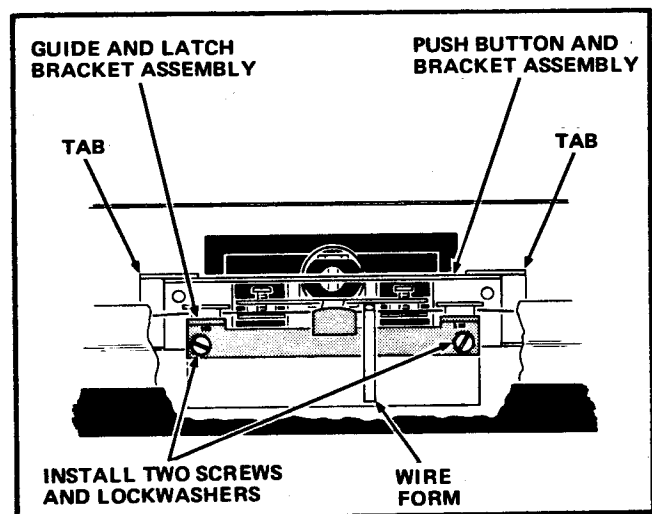

FIGURE 25
7. Install the unit with the Push Button in place in the Channel. Be sure the Cable is between the Wire Form which actuates the Switches and the base of the Bracket on the Push Button and Bracket Assembly, and that the Push Button unit is under the tabs on the Channel. See Figure 25.
8. Guide the Cable under the Cable Guides on the Guide and Latch Bracket Assembly. See Figure 25. Depress another Push Button to apply tension to the Cable, which will set the Cables position.
9. Loosely install the 2 Screws and Lockwashers that attach the Guide and Latch Bracket Assembly to the Push Button and Bracket Assembly. See Figure 25.
10. Check the Cable routing. Be sure the Cable is between the 3 Cable Guides on the Guide and Latch Bracket Assembly and the Push Button and the Bracket Assembly and that it goes over the 2 Cable Guides on the Push Button and Bracket Assembly. It must have freedom of movement through the unit. See Figure 25.